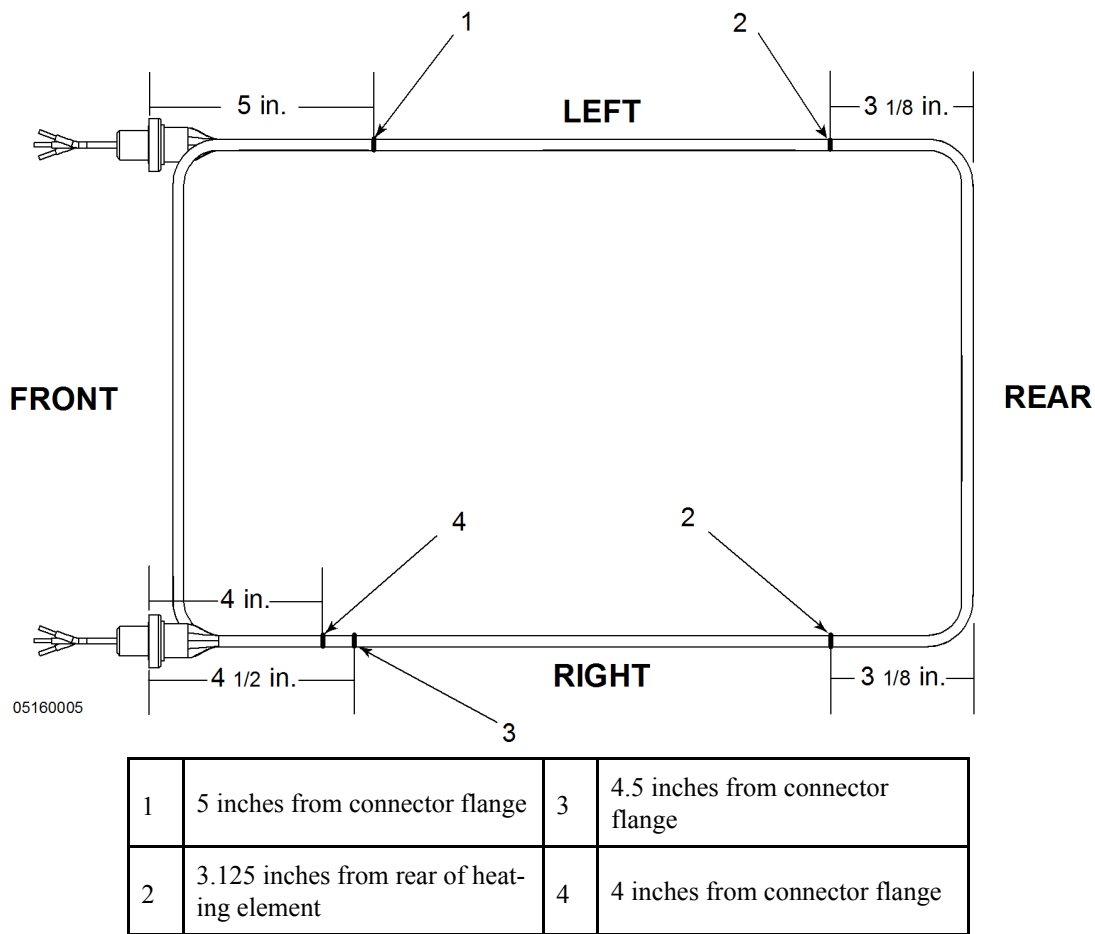

Figure 4-2 Marking the Upper heating Element
- 2) Draw the following marks on the upper heating element (see Figure 4-2 Marking the Upper heating Element).
- Draw mark (1) on the left front side of the upper heating element five inches rear of the connector flange.
- Draw a mark (2) on the left and right side of the upper heating element 3 1/8 inches forward of the rear of the heating element.
- Draw a mark (3) on the right front side of the upper heating element 4 1/2 inches rear of the connector flange.
- Draw a mark (4) on the right front side of the upper heating element 4 inches rear of the connector flange.